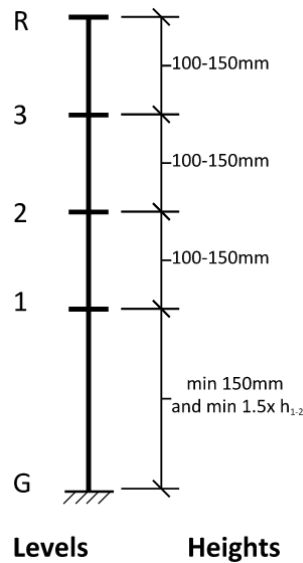

Figure 3: Building floor level and height requirement
- Figure 3 shows the definition of floor numbers and the height constraints. There must be three suspended floors in the model.